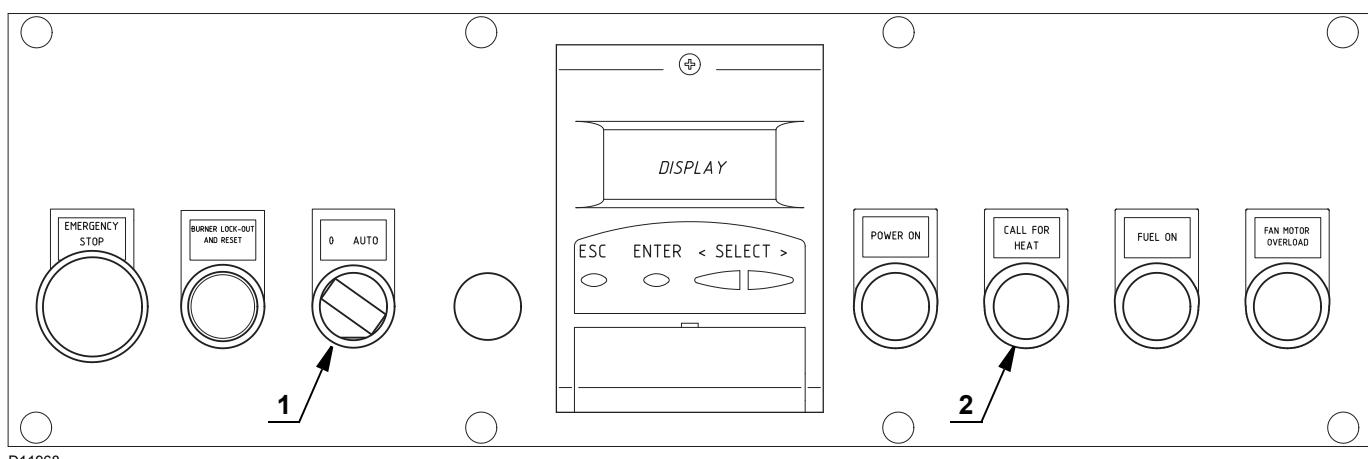

Fig. 29
Close the remote controls and position the selector 1)(Fig. 29) to "AUTO".
When the limit thermostat (TL) is closed, the "HEAT REQUEST" 2)(Fig. 29) signal must be on and the burner starts the starting cycle.